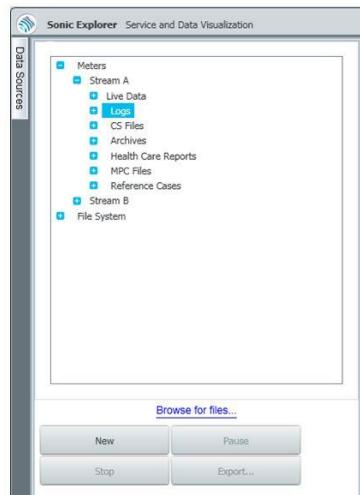

Figure 13-1 View logs
- ▶ Go to: **Meters** → <**Meter Name**> → **Logs**. At the bottom left you have four action buttons. (**New**, **Pause**, **Stop**, and **Export**). Please see Figure 13-1.